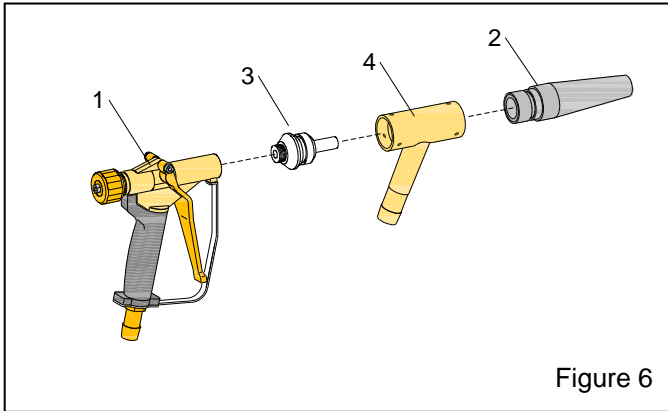

Figure 6
8.2 Blast Gun Assembly, Figure 6